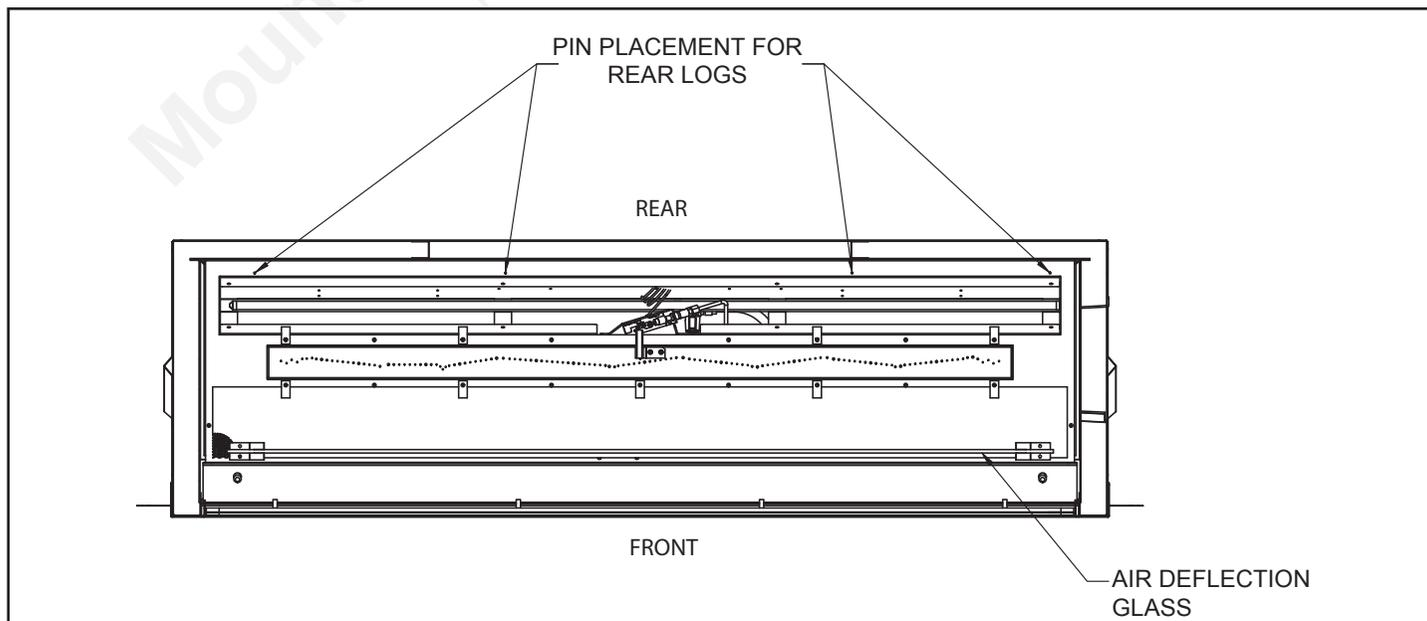

Figure 7.7– Pin Placement for Accessory Logs
1. Mount the four log support pin brackets using mounting holes and screws provided in locations indicated in Figure 7.7.